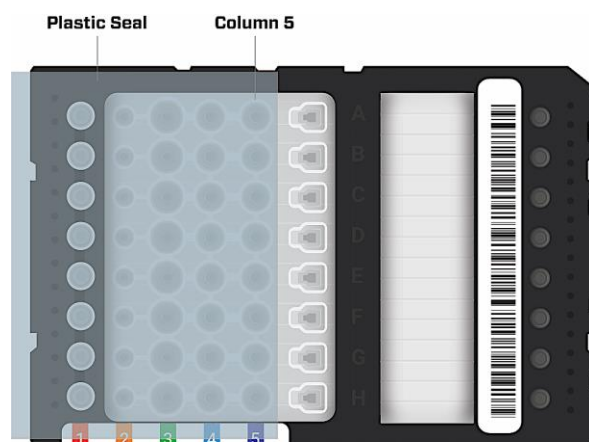

Figure 9. Proper plastic seal application for sample recovery
2. Remove the Ionic fluidic chip from the instrument stage and place on a level surface. Cover columns 1–5 with a plastic adhesive film leaving the Sample Well column uncovered as shown in **Figure 9**. Ensure a tight seal for each well.